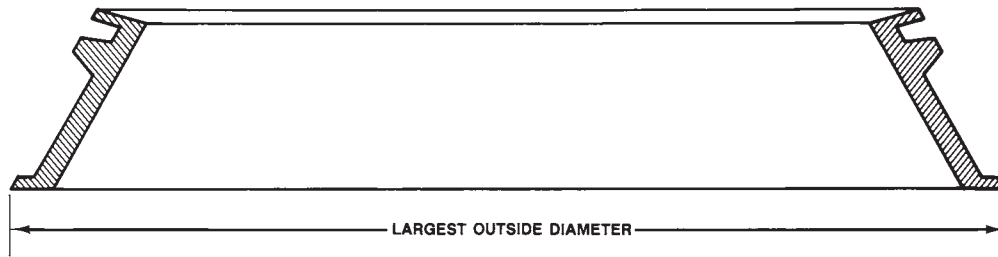
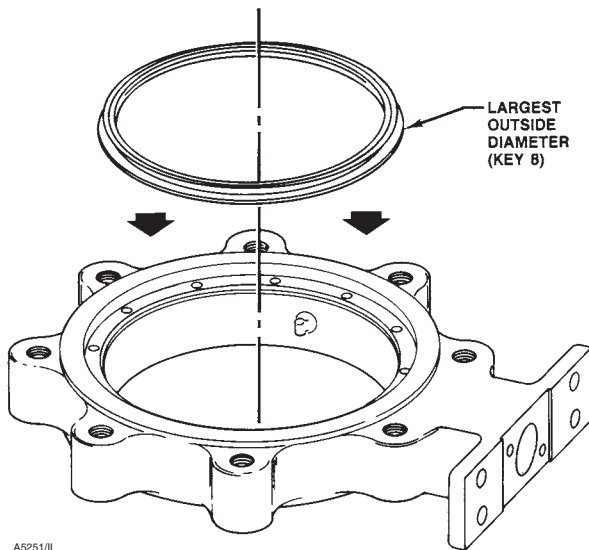

Figure 6. Typical Seal Ring (Sectional)
Figure 7. Typical Seal Installation
1. Locate the replacement seal ring (key 8) and note the shape of the ring. The ring is wider across one edge diameter and narrower across the other edge diameter as shown in figure 6. Around the outside circumference is one wide groove.
2. The seal ring and backup ring assembly must be installed in the valve. The wider outside diameter of the seal ring goes into the T-slot area of the valve body, shown in figure 7. Start the wider diameter edge of the seal ring into the T-slot of the valve body using a blunt end screwdriver.
Locate the replacement seal ring (key 8) and note the shape of the ring. The ring is wider across one edge diameter and narrower across the other edge diameter as shown in figure 6. Around the outside circumference is one wide groove.
Install the seal ring (key 8) into the valve body by first placing the wider outside diameter of the seal ring into the T-slot area of the valve body which is shown in figure 7. Metal seals without a back-up ring will fall into place. Metal seals with a back-up ring (key 9) will have to be installed following the instructions given below for the Phoenix III seal with back-up ring.
Install the seal ring in the valve body by first placing the wider outside diameter of the seal ring, as marked in figure 6, into the T-slot area of the valve body which is shown in figure 7. Phoenix III seal rings without a back-up ring will fall into place. If the Phoenix III seal uses a back-up ring (key 9), the back-up ring will have to be installed after placing the seal ring in the valve using a blunt end screwdriver. Do not use the screwdriver or seal tool directly on the metal seat. Use a tool only on the backup ring.